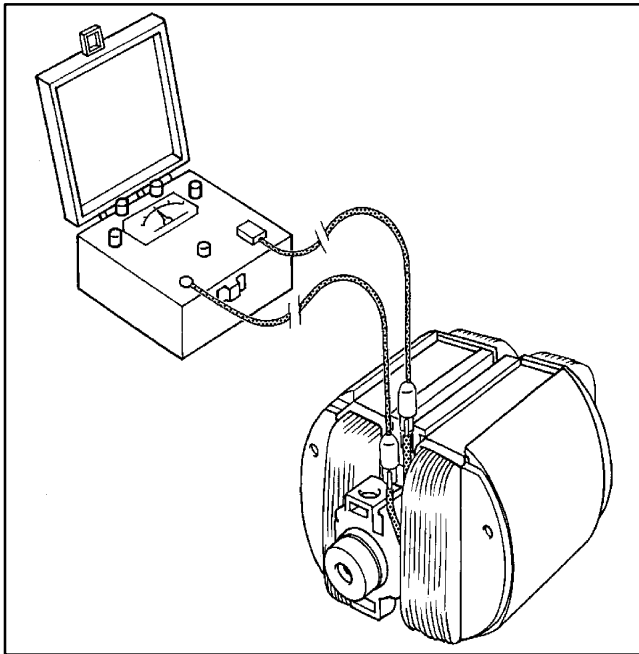

Figure 9-5 Rotor Resistance Test
1. To test the rotor resistance, use a Wheatstone bridge. See Figure 9-5. See Figure 9-6 for resistance values.